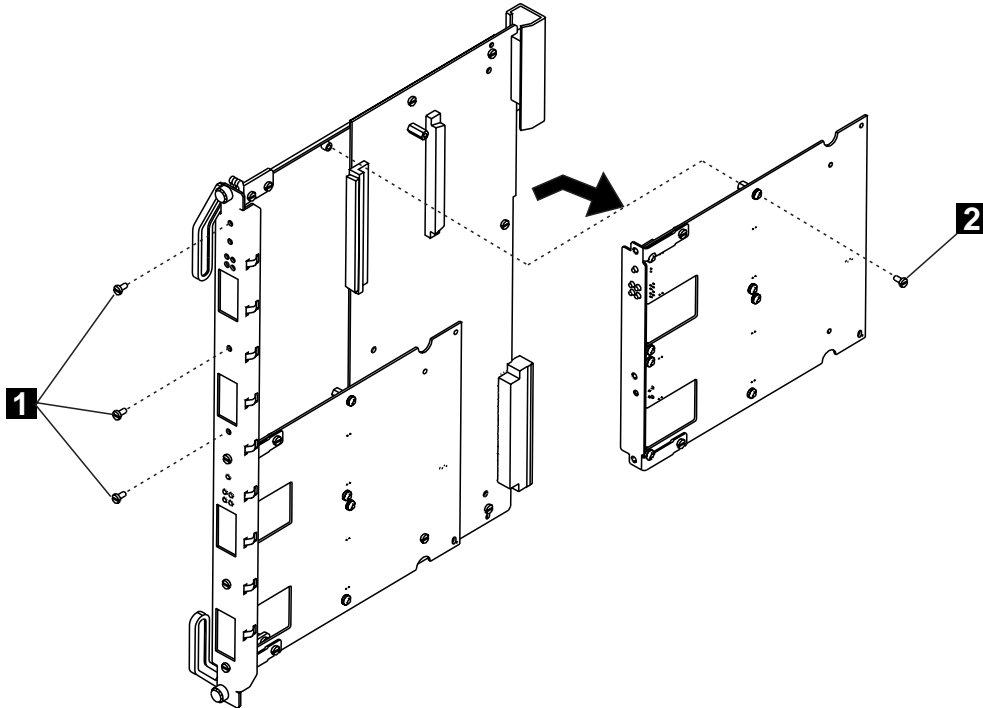

Figure 13. Removing the Motherboard
- **1** Detach the motherboard on which you want to install the I/O card by removing the four screws (**1** and **2** in Figure 13) that hold the motherboard to the module. Retain the screws for reattaching the motherboard.